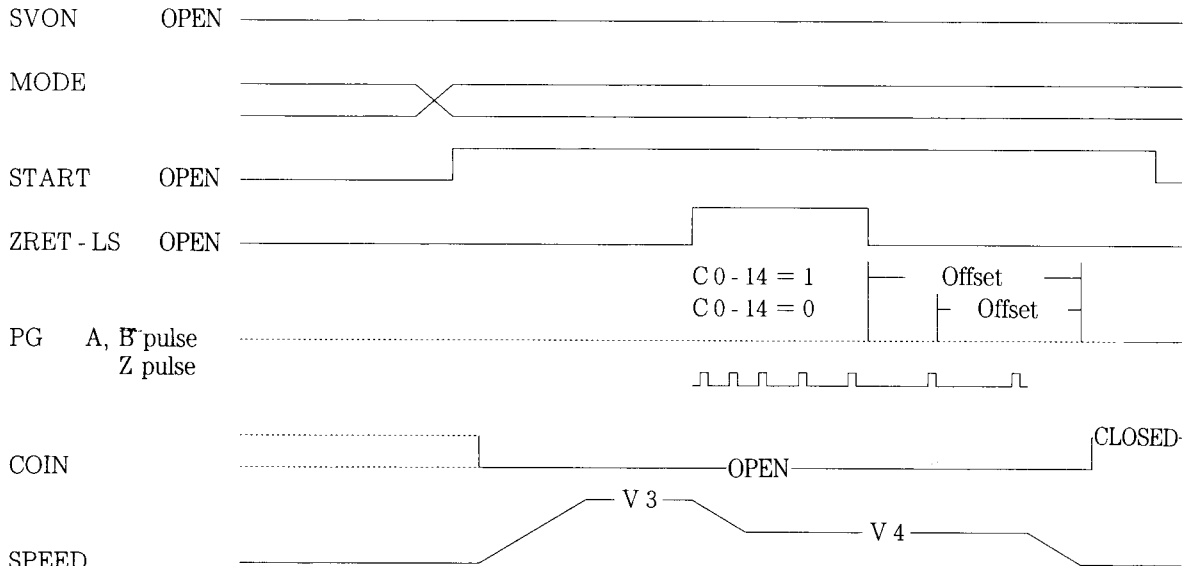

Fig. 4.5 Time Chart of Zero-point Return Operation
- **Time chart** Fig. 4.5 shows the time chart of zero-point return operation.